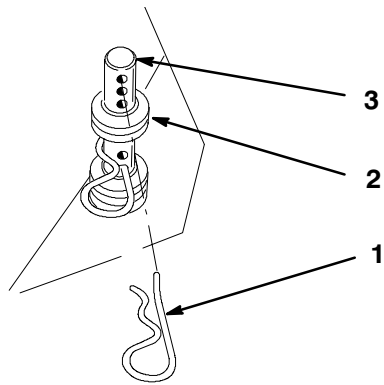

Figure 9
- On opposite side of muffler, install extra hairpin cotter pins into front and rear height-of-cut pins (Fig. 9).